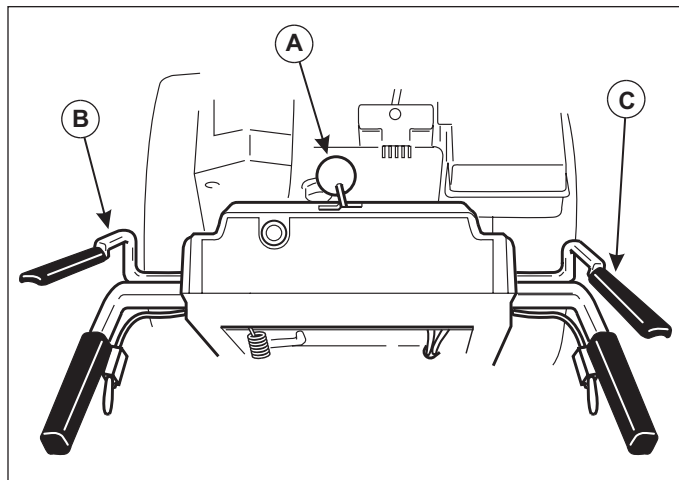

Figure 2. Controls (from operator's position)
6. Check the Drive Control (B, Figure 2), and Broom Control (C) for proper operation. If adjustment is required, see the Service section for procedures.
8. Check the Speed Selector (A, Figure 2) for smooth operation. The control must move freely into each speed position gate and remain in position when released. If the Speed Selector does not move freely into all forward and reverse speed positions, contact your local authorized dealer for assistance.
2. Fully press and hold the Traction & Free-Hand™ Control lever (B, Figure 2) on the left-hand grip to engage the traction drive and begin moving the power broom. To disengage the traction drive, completely release the lever.
3. Fully press and hold the Broom Engage Control (C, Figure 2) on the right-hand grip to begin broom rotation. Releasing the Broom Engage Control will disengage the broom —**unless the Free-Hand™ Control has been activated (See step 4 below).**
5. Select forward or reverse speeds as needed using the Speed Selector (A, Figure 2). Release both control levers before changing drive speeds.
Use the Speed Selector (A, Figure 2) to control the drive speed of the broom. There are five forward speeds and two reverse speeds.
To change speeds, release both control levers (B, Figure 2), then move the Speed Selector to the desired setting. Fully depress the control levers to resume.